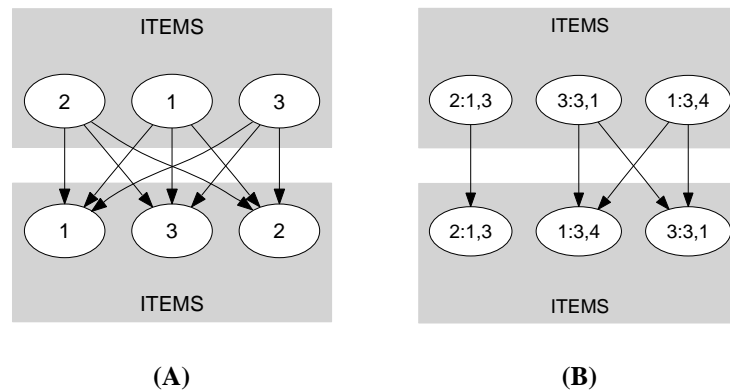

Figure 5.77: Initial and final graph of the `bin_packing` constraint
Parts (A) and (B) of Figure 5.77 respectively show the initial and final graph associated with the **Example** slot. Each connected component of the final graph corresponds to the items that are all assigned to the same bin.